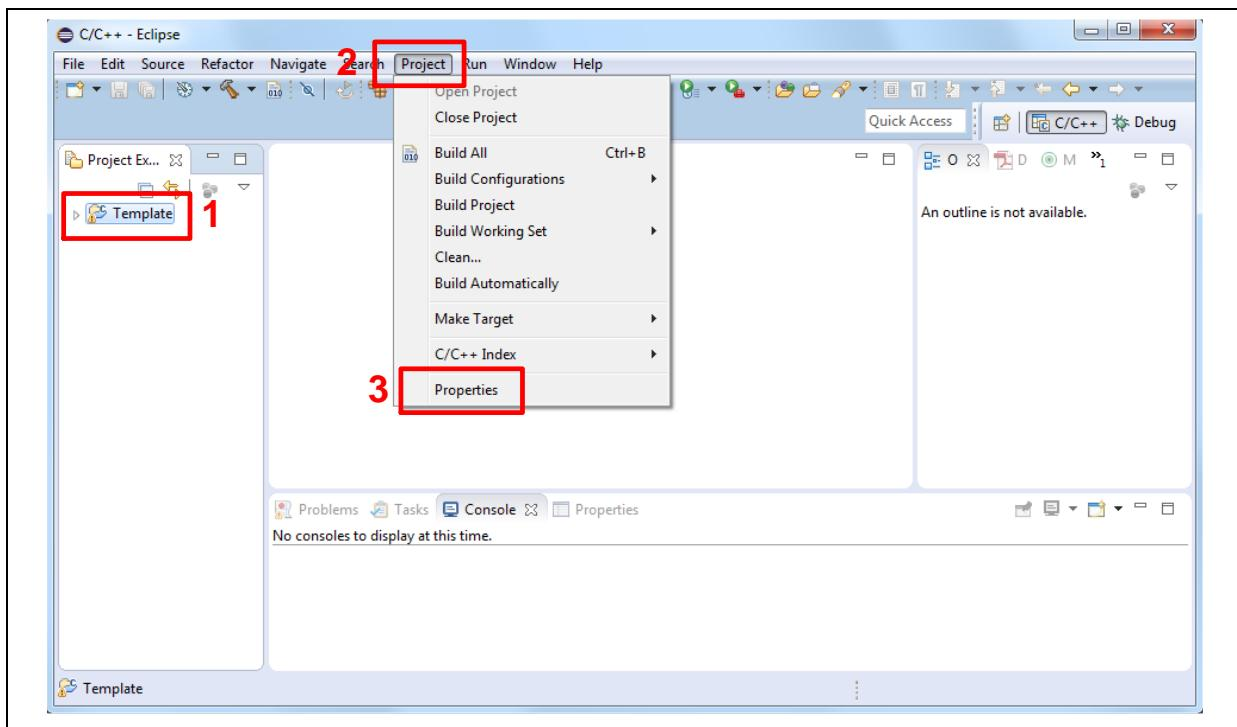
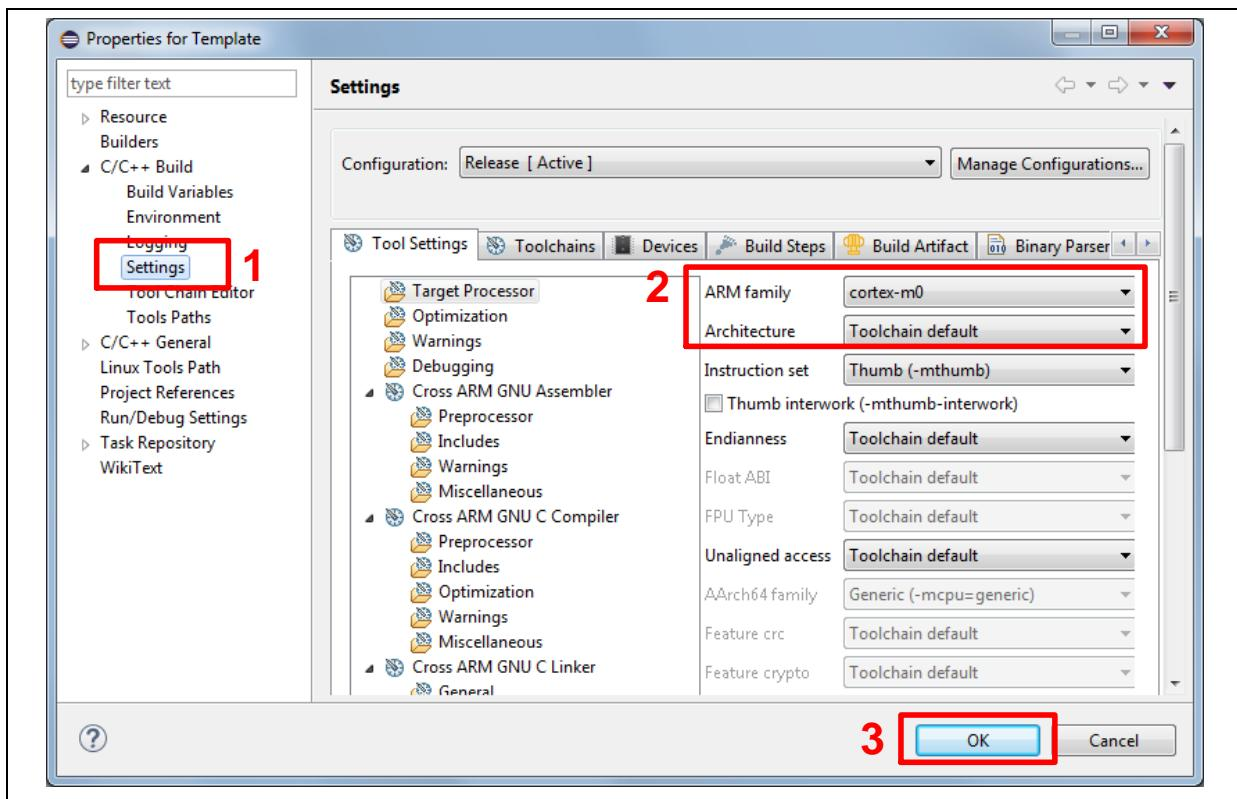

Figure 4-21 Open Project Properties Window
Figure 4-22 Project Properties Settings
3. Click the "Template" project and find the project properties as shown in Figure 4-21. Make sure the settings are the same as settings in Figure 4-22.